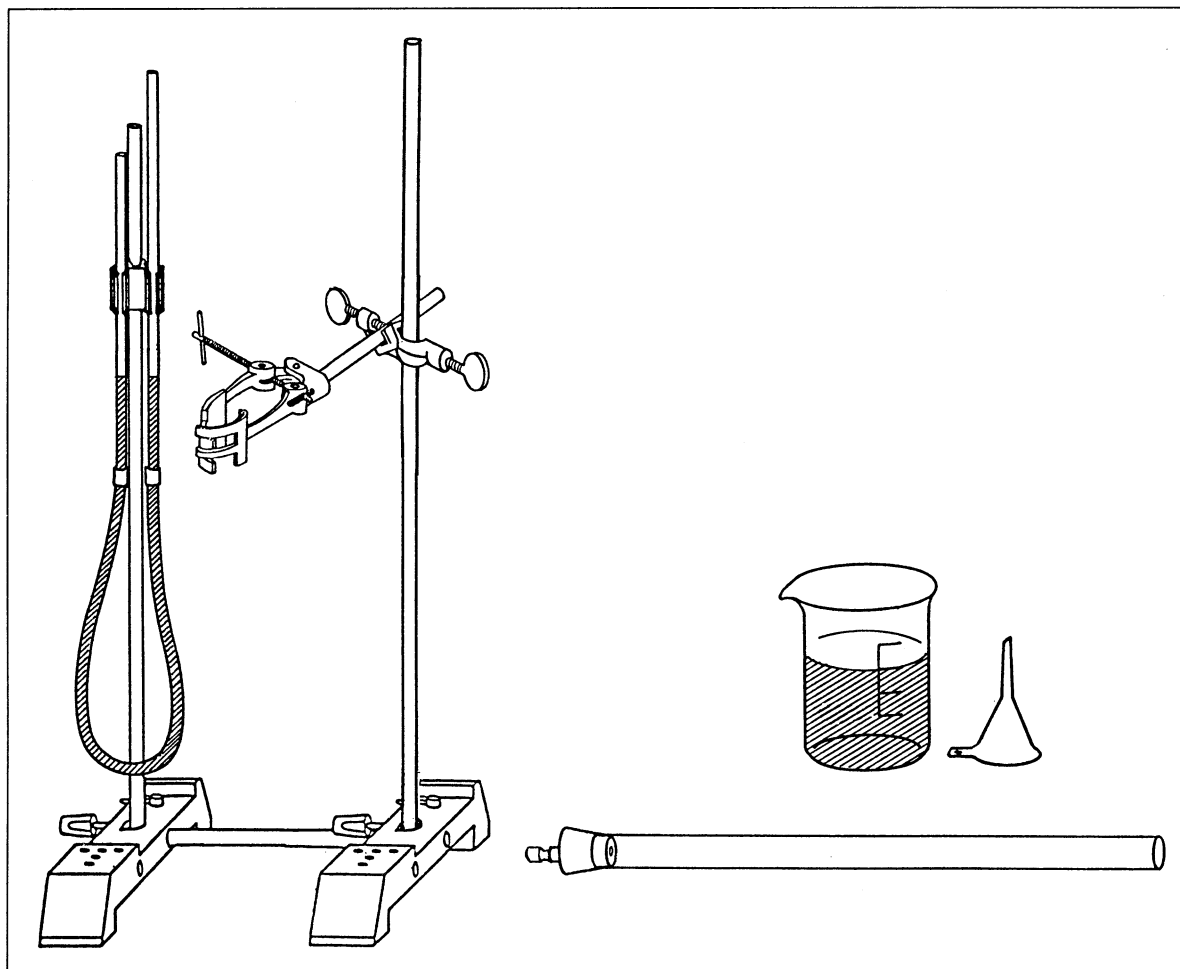

Fig. 1 Setting up the interconnected vessels.
1. Set up the stand as shown in fig. 1